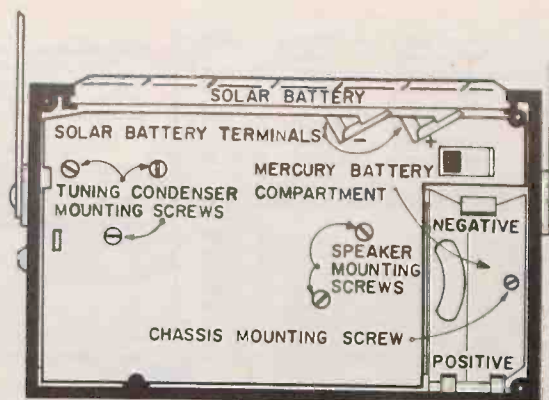

FIG. 2—REAR VIEW—BACK COVER REMOVED
6. Remove the slotted head screw in the Mercury Battery compartment (See Fig. 2). The entire chassis may now be lifted from the case.